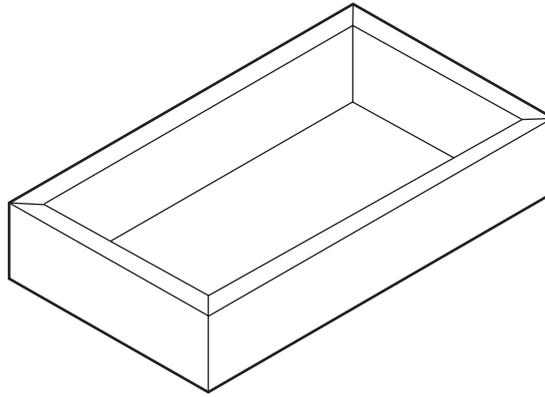

Fig. 8
- (e) Fig. 8 shows the plinth made from four pieces of wood joined at the corners by a glued mitre joint.